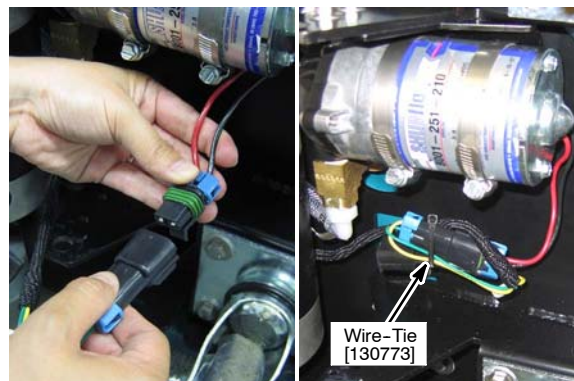

Fig. 25
6. Plug the pump wire connector into the *ec-H2O* wire harness. Secure the wire connection and capacitor plug to the machine frame with a wire-tie (Figure 25).